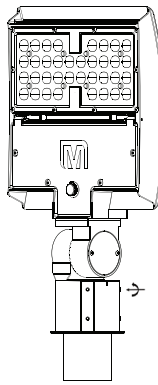

FIG. 2
2. Tighten the four (4) set screws on the slipfitter to secure it to the pole (refer to **FIG. 2**).